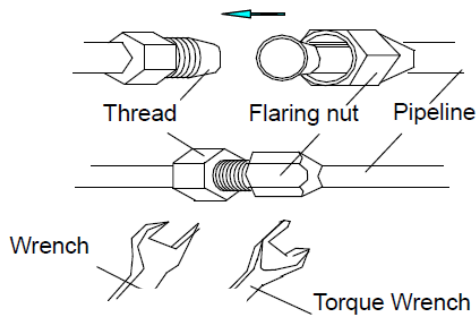

Fig. 10
- Screw tightly the flaring nut with torque spanner until the torque spanner produces "click" sound (Fig. 10).